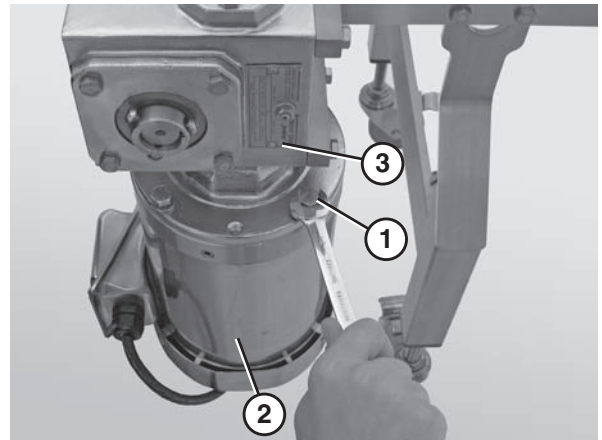

Figure 21
1. Remove the bolts (Figure 21, item 1) that connect the motor (Figure 21, item 2) to the gear reducer (Figure 21, item 3) (vertical drive shown in figures).